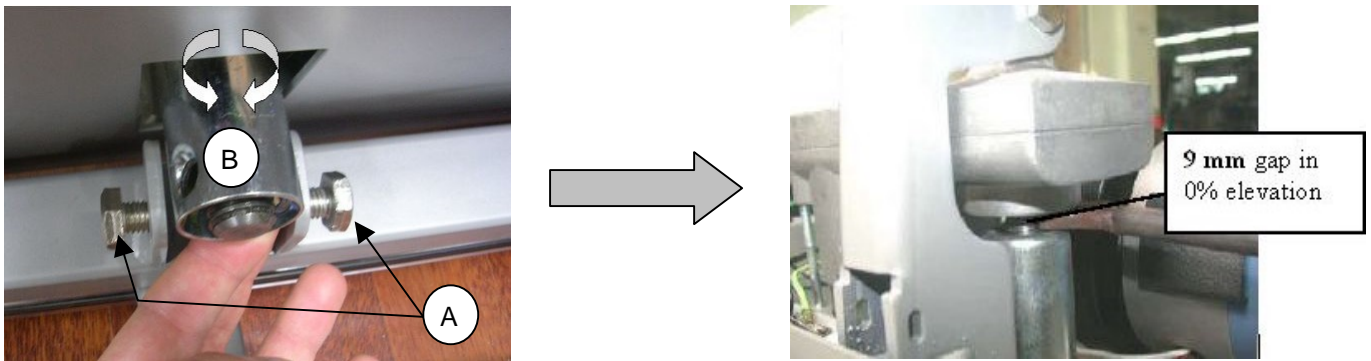

Figure 2 Adjusting lift motor to 0% position
5. Loosen two screws (A) attaching the lift motor nut (B) to the incline frame (Figure 2)
6. Adjust the lift motor nut (B) so that there is 9 mm gap between the upper end of the nut and the lift motor frame (Figure 2)